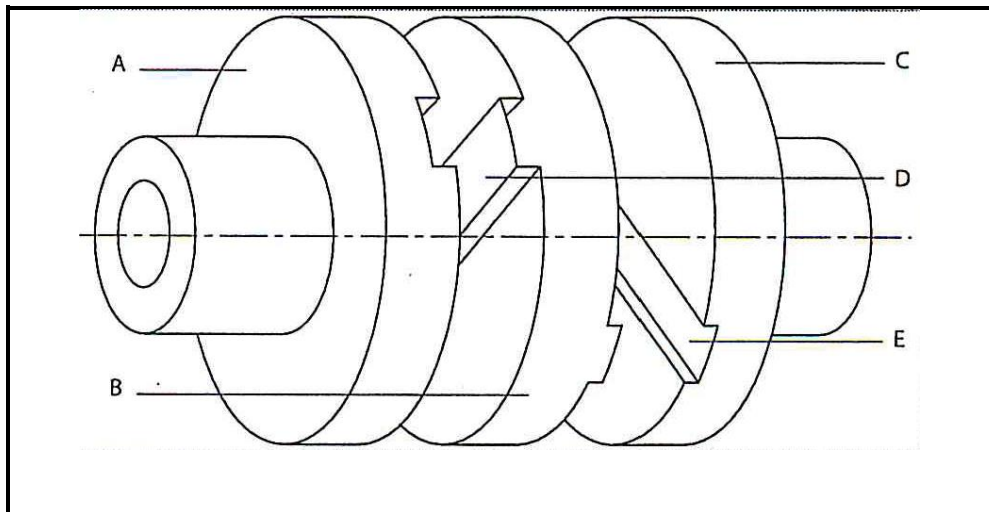

FIGURE 1 (5)
- 2.1 FIGURE 1 below shows a diagram of a coupling. (5)